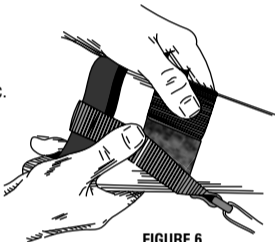

FIGURE 6
6. All slack, looseness, bubbles, wrinkles, etc. must be worked out of the joining of the hook/loop materials. After a satisfactory closure is made, use your thumb and forefinger to, again, apply pressure to the total surface of the hook/loop materials. **Figure 6.**